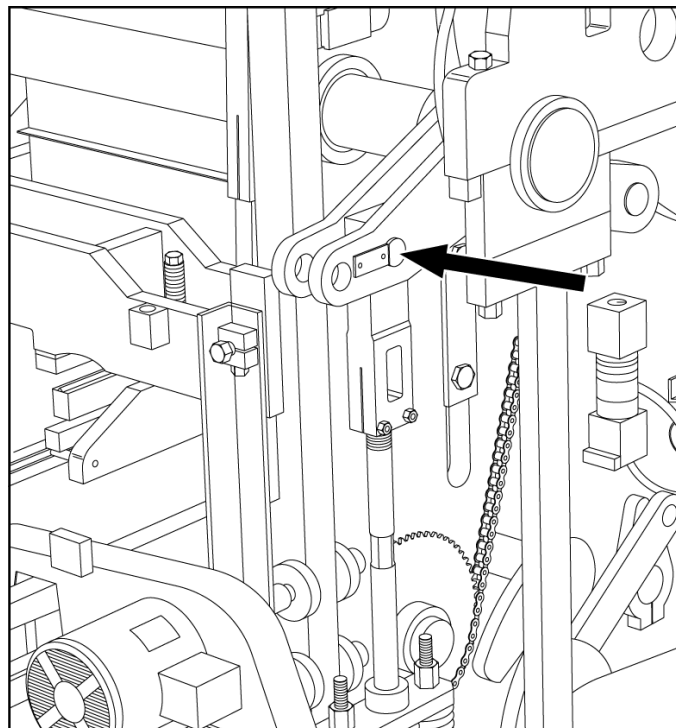

Figure 4.40 PALLET RECEIVER SHAFT POSITION
4.3.4 The following items should be positioned as shown on figures 4.40 and 4.41.
- a. Pallet receiver shaft - position pins in inside holes (short stroke)(see figure 4.40).